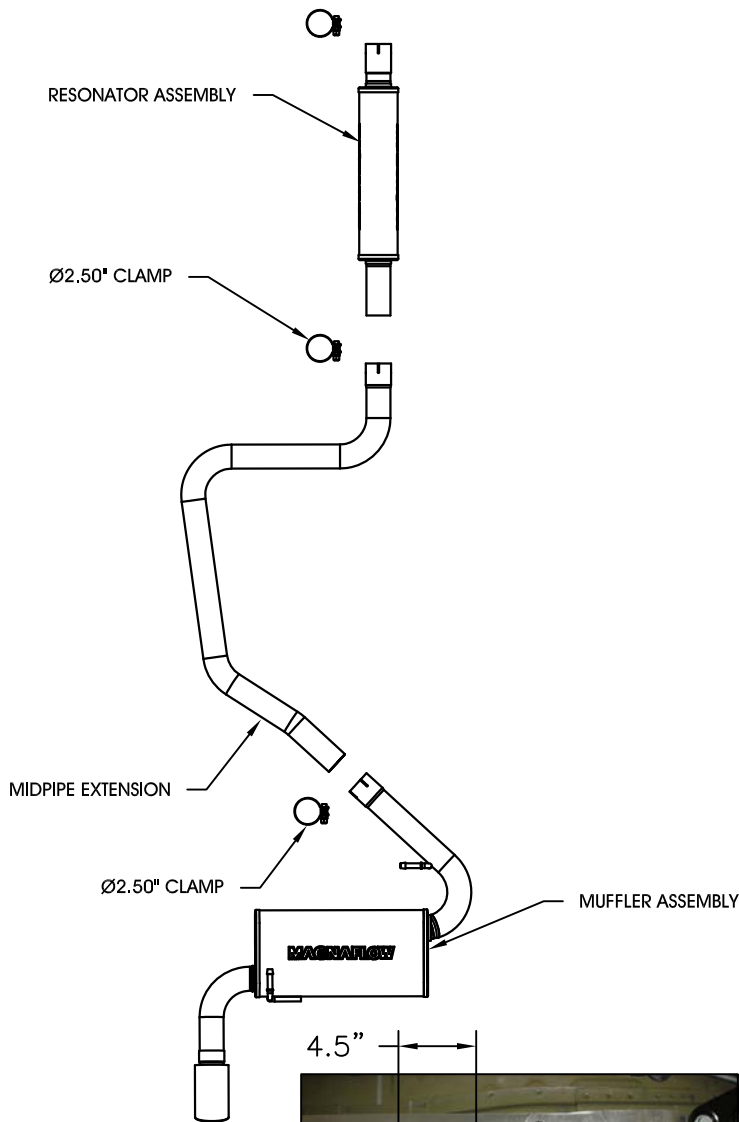

FIG. 1
Step 1: (Carefully read all instructions before installation) To remove the OEM exhaust system cut 4.5" back from the weld on the back of the converter (see FIG 1) . Disengage the hangers from the OEM rubber insulators and remove the system from the vehicle. Do not discard or damage the OEM fasteners or rubber insulators, as they will be re-used to mount the new exhaust system.